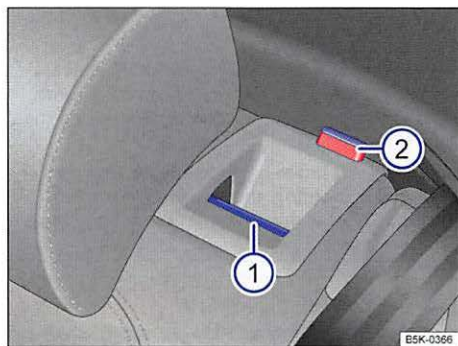

Fig. 83 Rear seat: release button ①; red mark ②.
- Pull the release button ⇒ fig. 83 ① forward while folding the rear backrest forward.
- The rear backrest is unlocked if the red mark can be seen on the button ②.